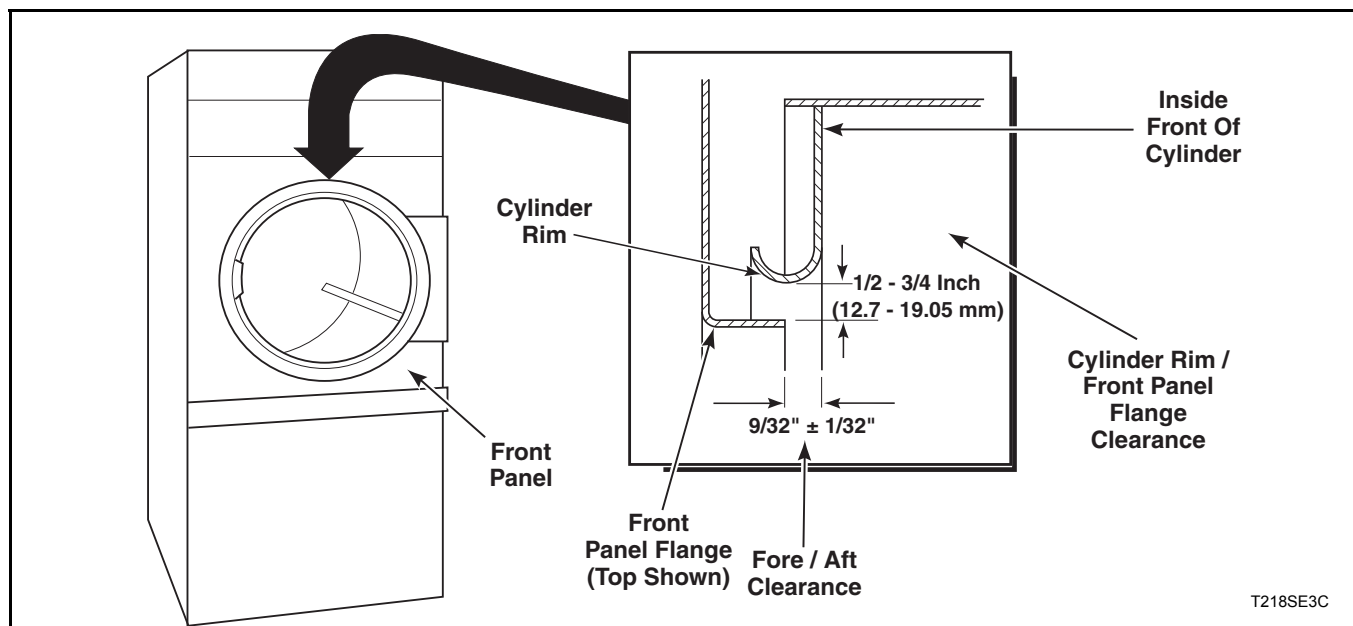

Figure 16
- Open loading door and check the gap between the center of the front panel top flange and the cylinder rim. Proper adjustment is when the gap is 1/2 - 3/4 inch (12.7 - 19.05 mm). Refer to *Figure 16*.